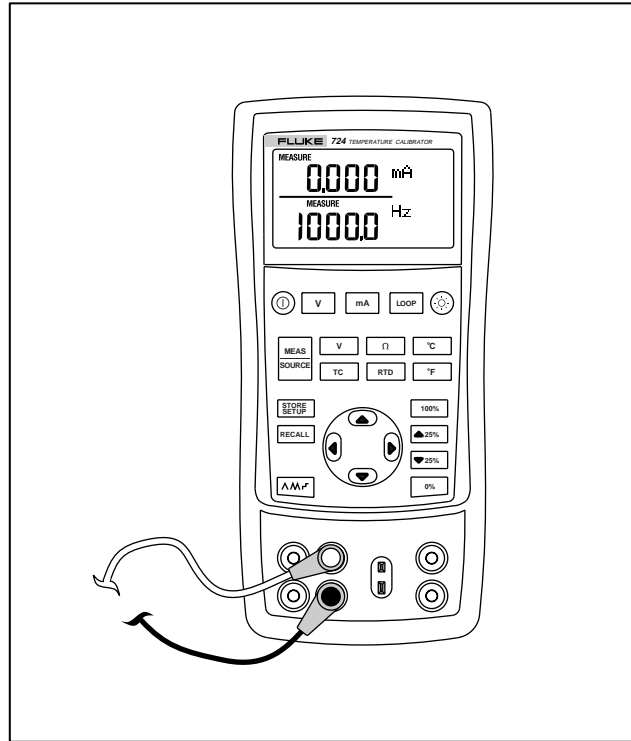

Figure 8. Measuring Electrical Parameters
1. Connect the calibrator as shown in Figure 8.